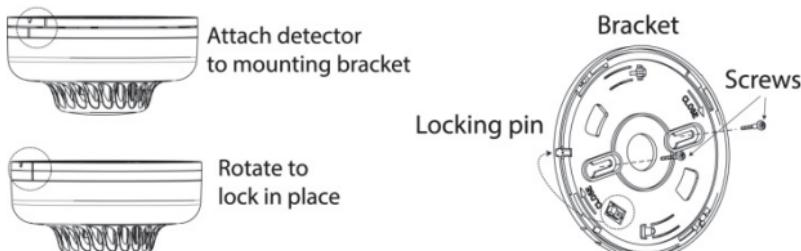

Figure 7: Smoke and heat detector installation
To install the detector (see Figures 7 & 8)
2. Remove the locking pin securing the mounting bracket to the unit (see Figure 7).
6. Using screws (supplied) attach the bracket to the wall as shown in Figure 7.
- Line up the side slot of the bracket and the detector. Push the detector onto the mounting bracket and turn it clockwise to secure it into place. Insert the locking pin in order to secure the mounting bracket to the detector (Figure 7).